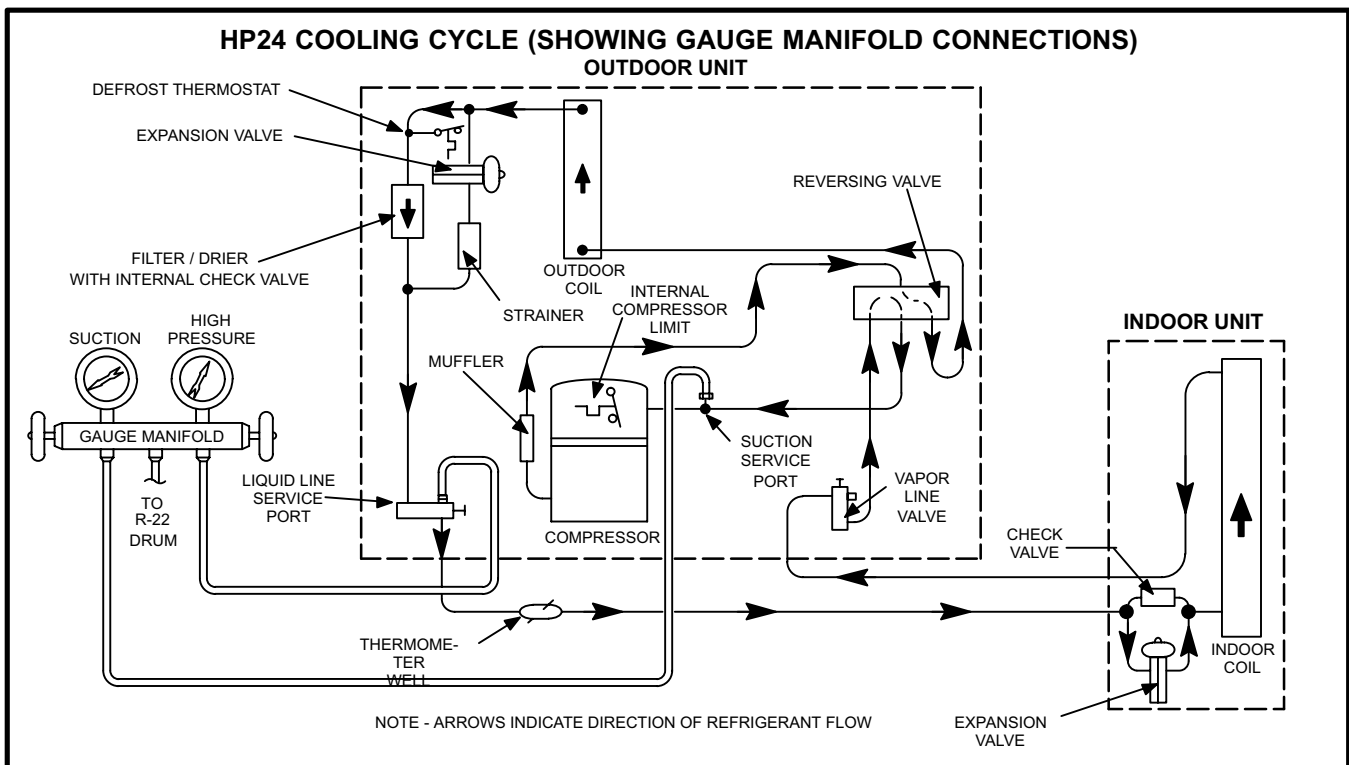

FIGURE 7
- Attach gauge manifold as shown in figure 7. Connect vacuum pump (with vacuum gauge) to center port of gauge manifold. With both manifold service valves open, start pump and evacuate indoor coil and refrigerant lines.
The filter drier is equipped with an internal check valve for correct refrigerant flow. See figure 7. If replacement is necessary, order another of like design and capacity. A strainer in the liquid line gives additional protection.